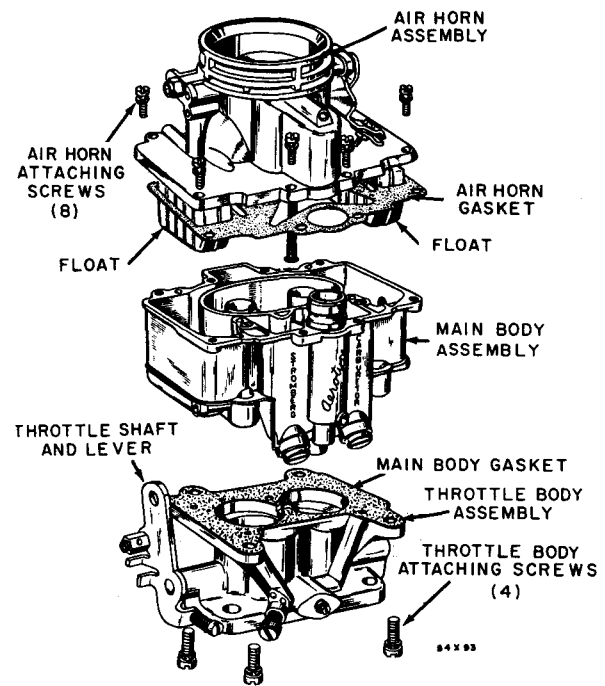

Fig. 13 — Three Main Groups (Disassembled View)
Refer to Figure 13 and proceed as follows: remove air horn attaching screws (8) and air horn. Remove throttle body attaching screws (4). Lift off main body assembly. The carburetor has now been separated into its three basic groups.
(Refer to Fig. 13)